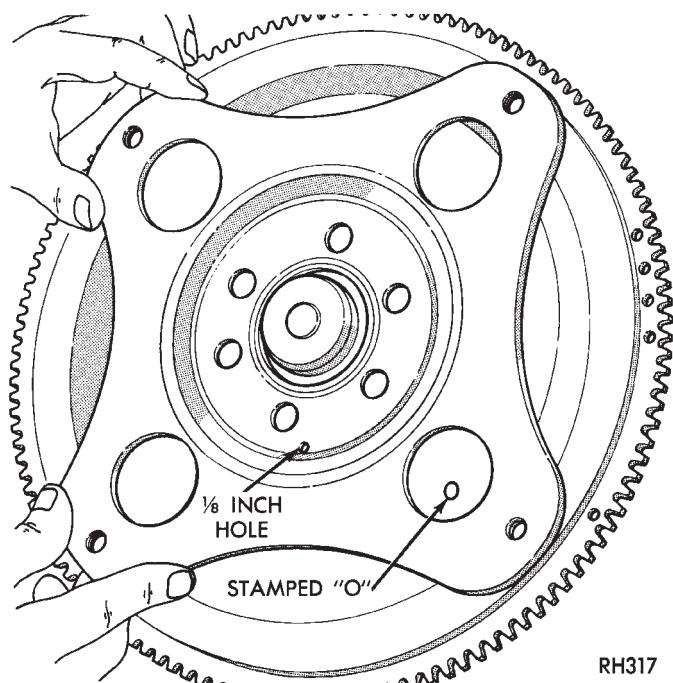

Fig. 5 Torque Converter And Driveplate Markings
(5) Temporarily secure converter with C-clamp attached to housing or with metal strap attached across converter housing.
(6) Check condition of converter driveplate. Replace driveplate if cracked, distorted or damaged.
(7) Verify that transmission dowel pins are seated in engine block and protrude far enough to hold transmission in alignment.
(8) Coat torque converter pilot hub of crankshaft with light coat of Mopar high temperature wheel bearing grease.
(9) Move transmission under vehicle and position it at rear of engine. Remove C-clamp or strap used to secure converter in housing.
(10) Align transmission with engine dowels and align converter with driveplate. Offset holes in driveplate are next to 1/8 inch hole in inner circle of plate (Fig. 5).